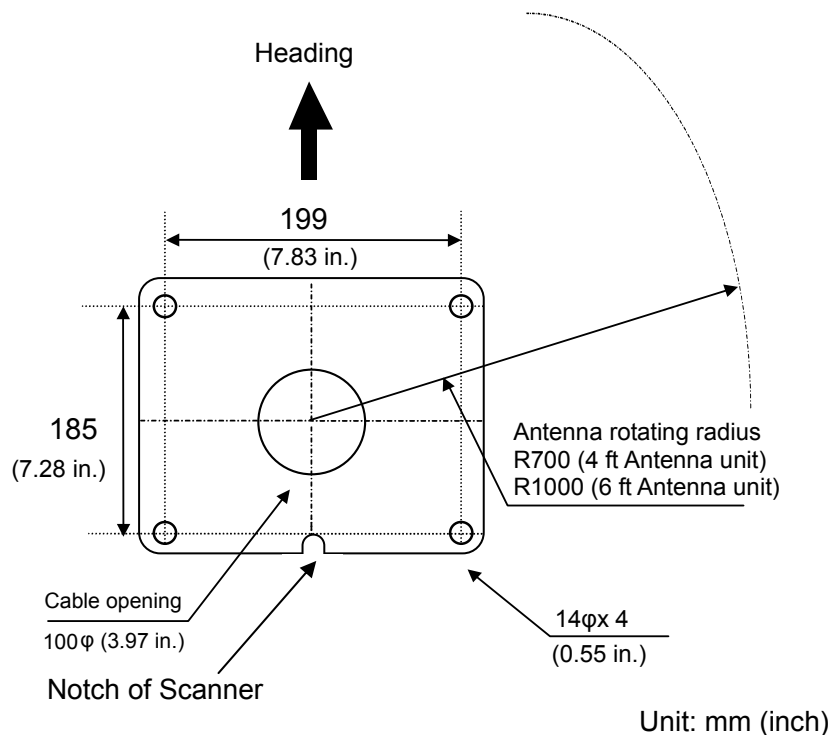

Figure 2.1 Plain view of mounting hole
The Antenna-Scanner unit is equipped to orient the notch of the attachment to stern as shown in Figure 2.1. Installation in this way eases maintenance work. Also refer to the consideration on equipment shown in 1.4.1.
- (1) Four mounting hole 14mm in diameter are made in the attachment side on the platform with reference to Figure 2.1.
- (2) The Antenna-Scanner unit is put on the location secured with four 12mm stainless steel bolts contained in installation material.